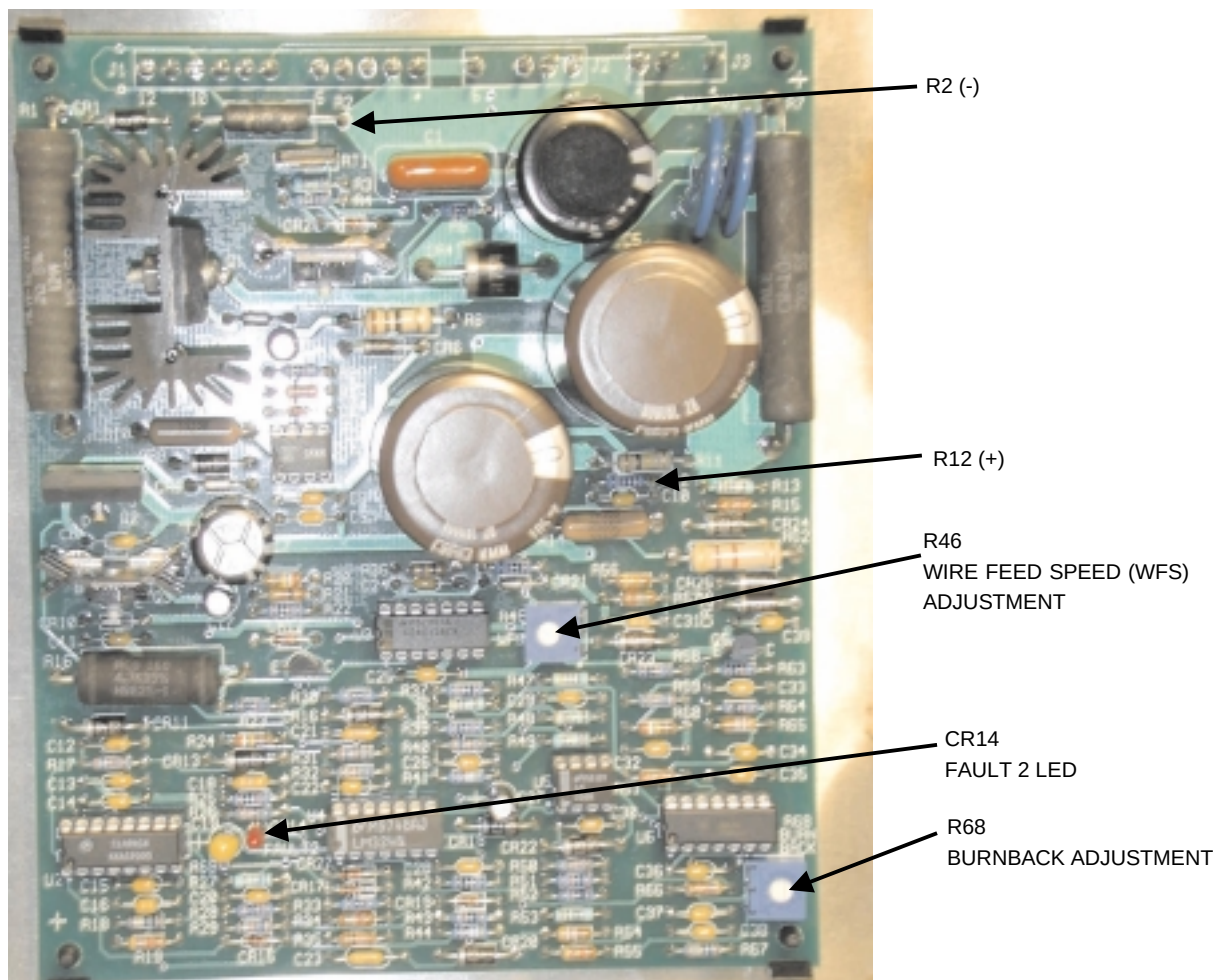

Figure 5-2 Motor Control Printed Circuit Board
1. Using a 1/4" nut driver or socket, remove the exterior cover to expose the motor control printed circuit board (See Figure 5-2).
2. Locate component R68 ("Burnback") on the motor control printed circuit board (See Figure 5-2). The best procedure is to make only slight adjustments until the amount of burnback is acceptable. Component R68 has a single turn (360°) range of adjustment.
2. Using a 1/4" nut driver or socket, remove the exterior cover to expose the motor control printed circuit board (See Figure 5-2).
8. Now, with the inch or gun switch depressed, adjust component R46 on the motor control printed circuit board until the analog meter displays the IPM calculated in Step #7 (See Figure 5-2).
4. Motor Overcurrent Protection - If the drive motor becomes locked or shorted, an electronic circuit will activate, and the motor will not operate. If this circuit activates, a light on the motor control printed circuit board labeled "Fault 2" will turn on (See Figure 5-2). The motor overcurrent protection circuit will have to be manually reset by placing the power switch on the wire feeder in the off position for at least 60 seconds.